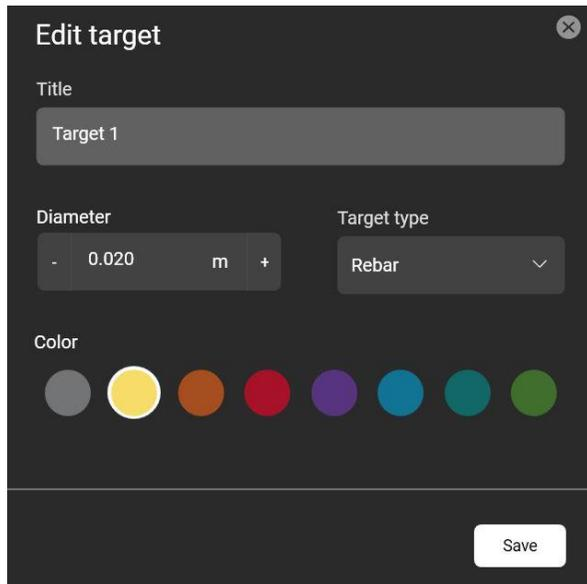

Fig. 34 Edit Findings
4. Then, edit the finding, including Title, Diameter, Target Type, and Colour (Fig. 34).